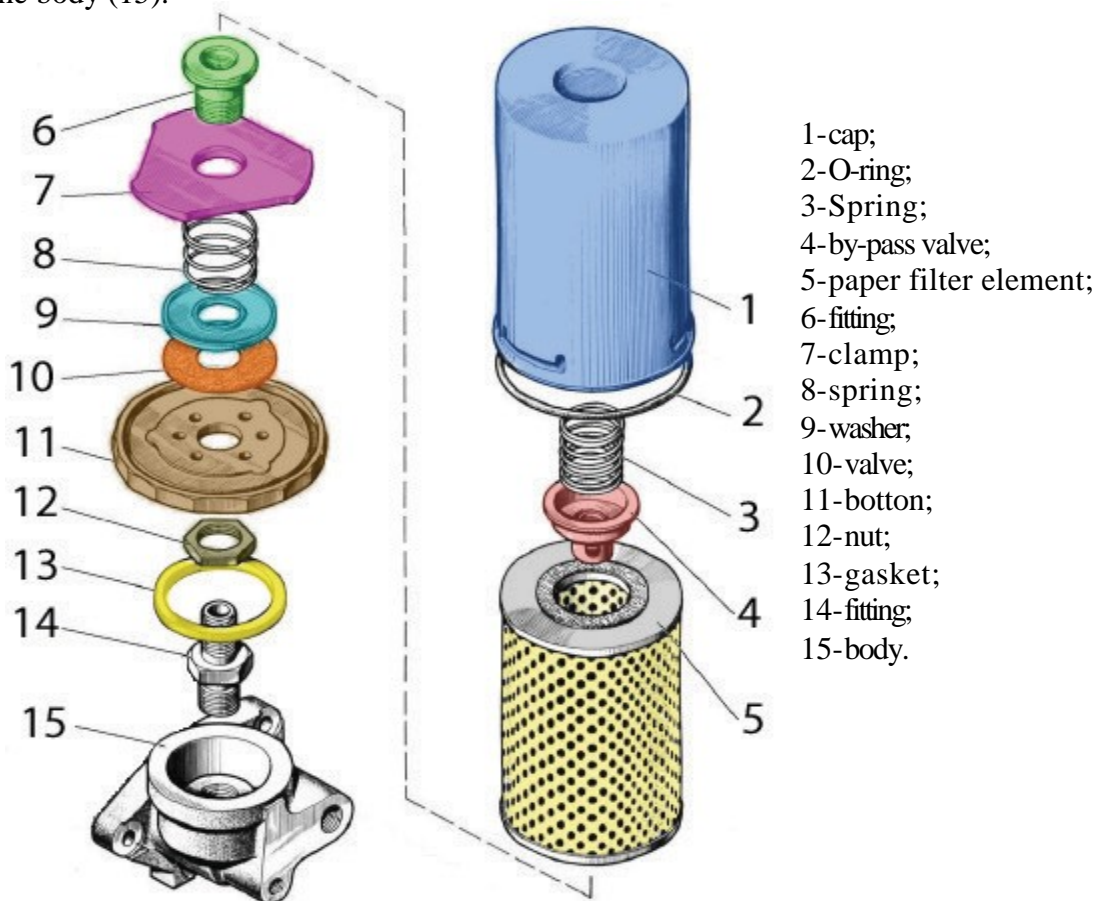

Figure 8.28
**Procedure 21. Changing the PFE of the Engine Oil Filter (to be performed simultaneously with changing oil in the crankcase):** (Fig 8.28)